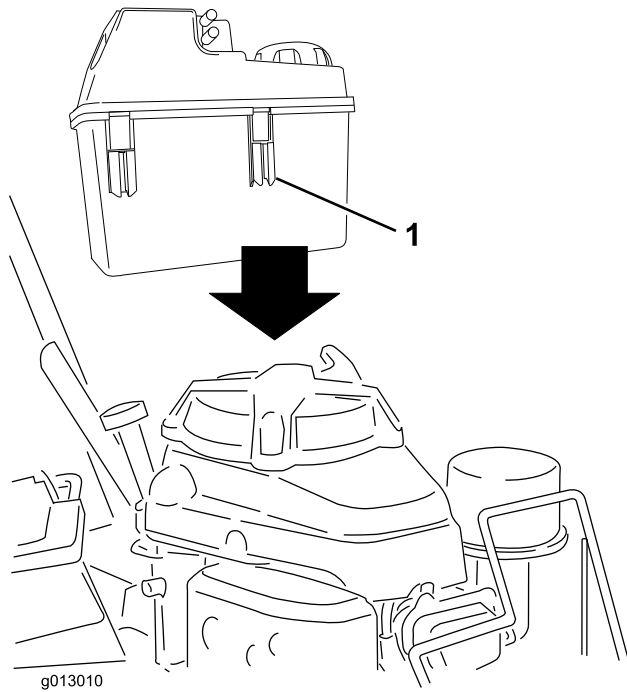

Figure 4
1. Slide the plastic clips on the front of the fuel tank onto the fuel tank mount (Figure 4).